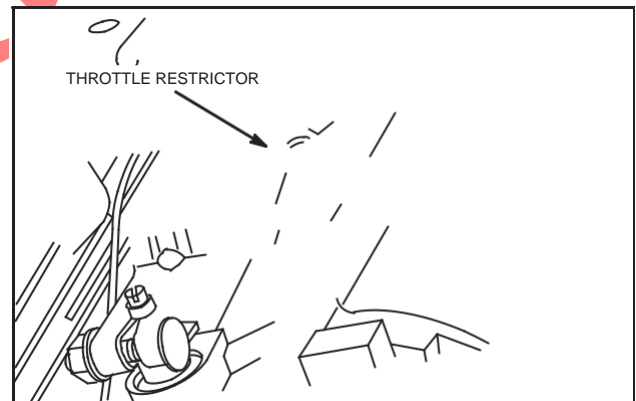

Fig. 27 - Adjust Throttle Restrictor
4. With engine running at governed idle RPM, bend throttle restrictor tang so that tang just contacts governor lever, Fig. 27.